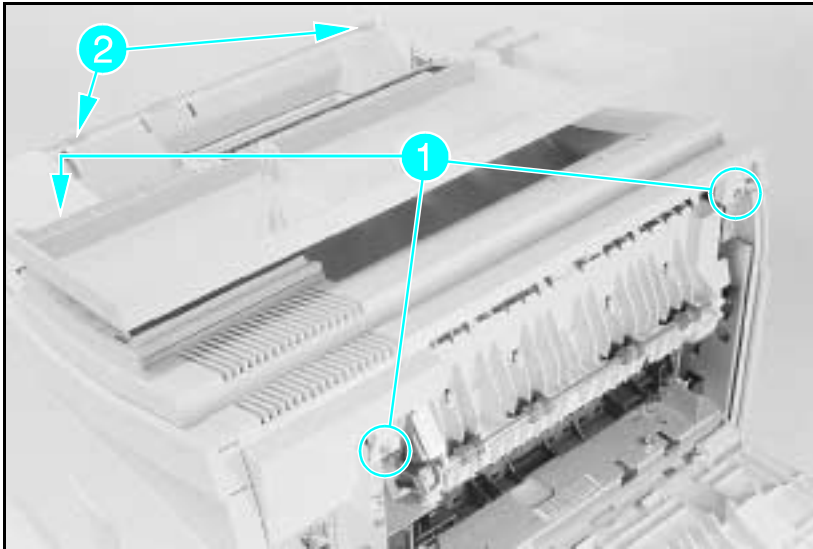

Figure 6-3 **Front Top Cover Screws and Latches**
- 4** Remove the (3) screws shown in Figure 6-3, callout 1.
- 5** Release the (2) latch points with a flat screwdriver while lifting the Top Cover (see callout 2.)